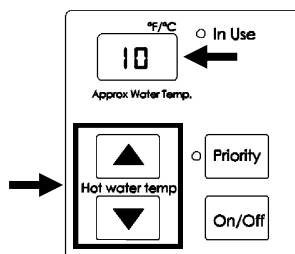

Figure 4A.
4. Press the ▲ (Up) and ▼ (Down) arrows on the controller to select setting “i0” (Figure 4A).